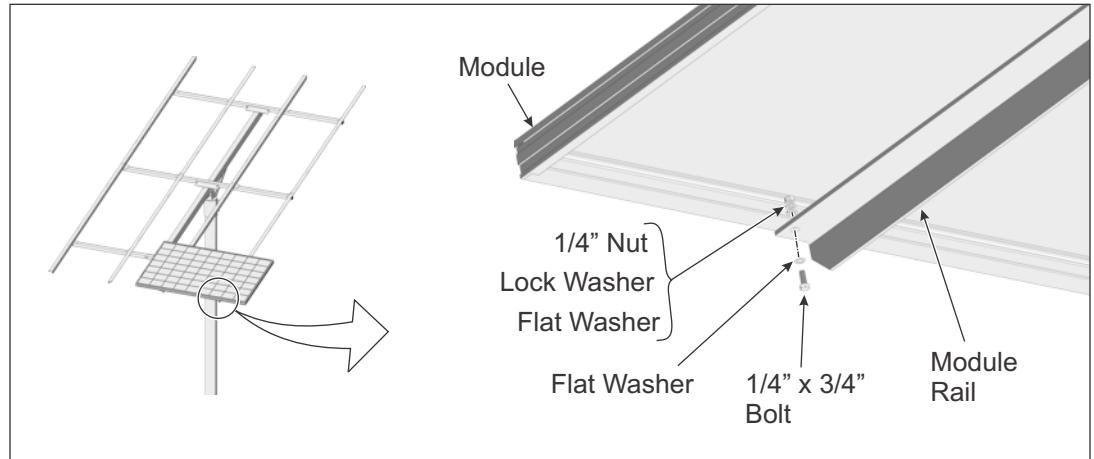

Figure 5-1: Installing PV Modules to Module Rails
- A. Place the southern most PV Module in place on the Module Rails. Align the mounting holes and secure with 1/4" x 3/4" bolts and hardware. Each Module has four attachment points. Finger-tighten for now. (See Figure 5-1)